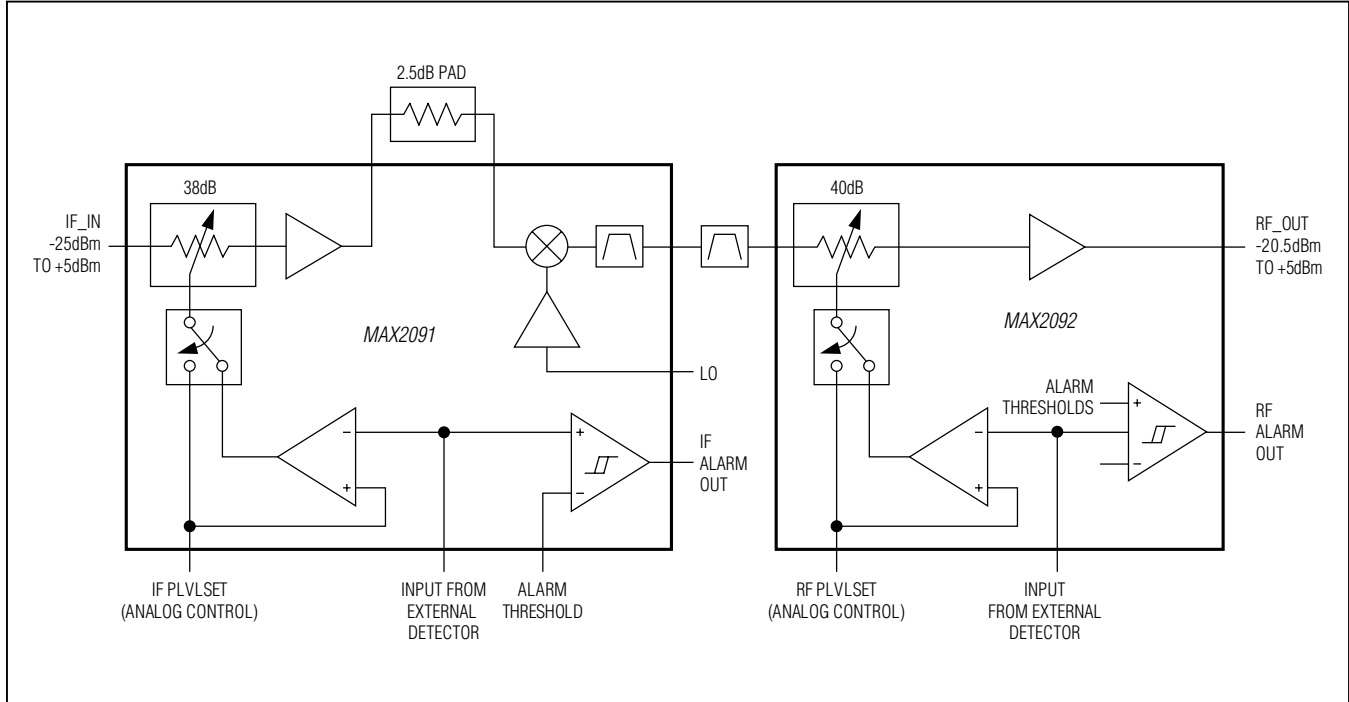

Figure 1. Cascaded IF-RF Lineup Using the MAX2091 and MAX2092
-25dBm to +5dBm. See Figure 1 for details. Contact the factory for additional details surrounding Maxim's MAX2091 and MAX2092 reference design.
As shown in Figure 1 and the Typical Application Circuit, provisions have been made to allow for the placement of a Tee attenuator between the VGA output and the mixer input. A default value of 2.5dB is used within the application circuit, although any desired value can be chosen. Alternatively, the attenuator can be replaced by a simple equalizer circuit if additional frequency gain-slope correction is desired over wider bands of operation.